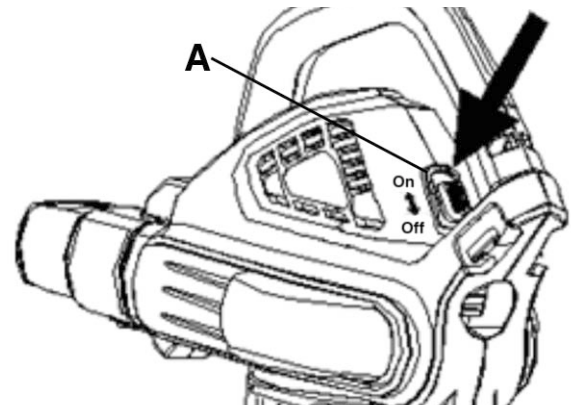

FIGURE 7
In either blower mode or vacuum/mulcher mode, move the On/Off switch (A) Fig.7 to the On position to turn blower on. Move the On/Off switch to the Off position to turn blower off.